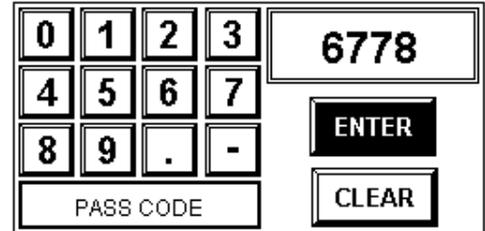

Figure ZD.3-10: Lock Out Code Entry Screen
- 1) Press “CAL” to begin the Calibration procedure. The *Numeric Entry Screen* is displayed, requesting the lock out (or pass) code for the particular calibration function {Figure ZD.3-10}.